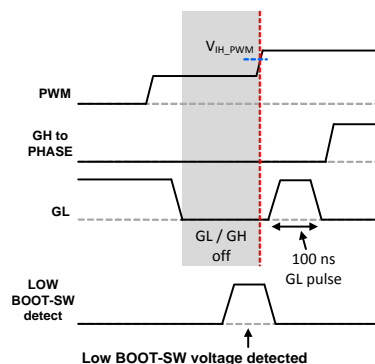

Figure 30. Low BOOT-SW Voltage Detected and PWM from 3-State to HIGH
- If the part exits 3-state with a low BOOT-SW voltage condition and the controller commands PWM=HIGH, the SPS outputs a 100 ns GL pulse and follows the PWM=HIGH command (see Figure 30).